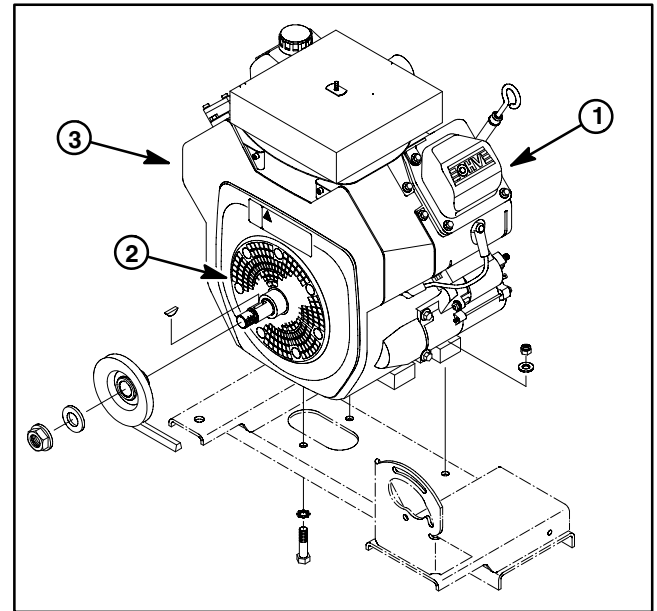

Figure 1
4. Clean grass screen and blower housing of dirt and debris (Fig. 1). Remove screen and housing if necessary.